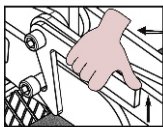
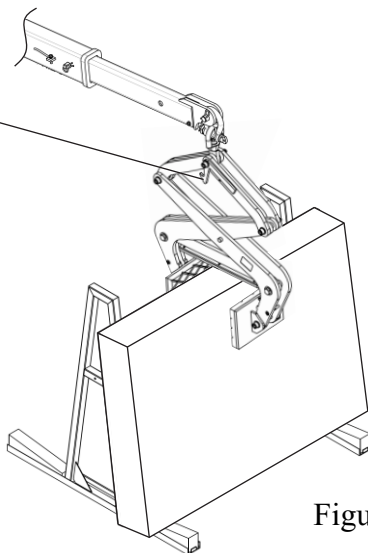

Figure 2.4
Figure 2.5
- Pull up the locking latch to disengage the clamping plates for lifting slabs up (Figure 2.4). Lift the scissor clamp with confirming the stone slab is gripped firmly (Figure 2.5).